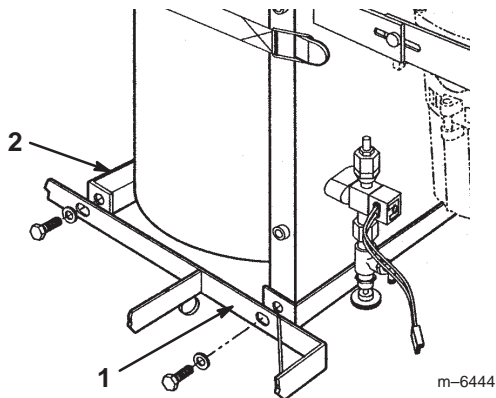

Figure 8
4. Mount the tank/compressor assembly to the right step frame using 2 bolts (3/8 x 1 in.) and flat washers (Fig. 8).